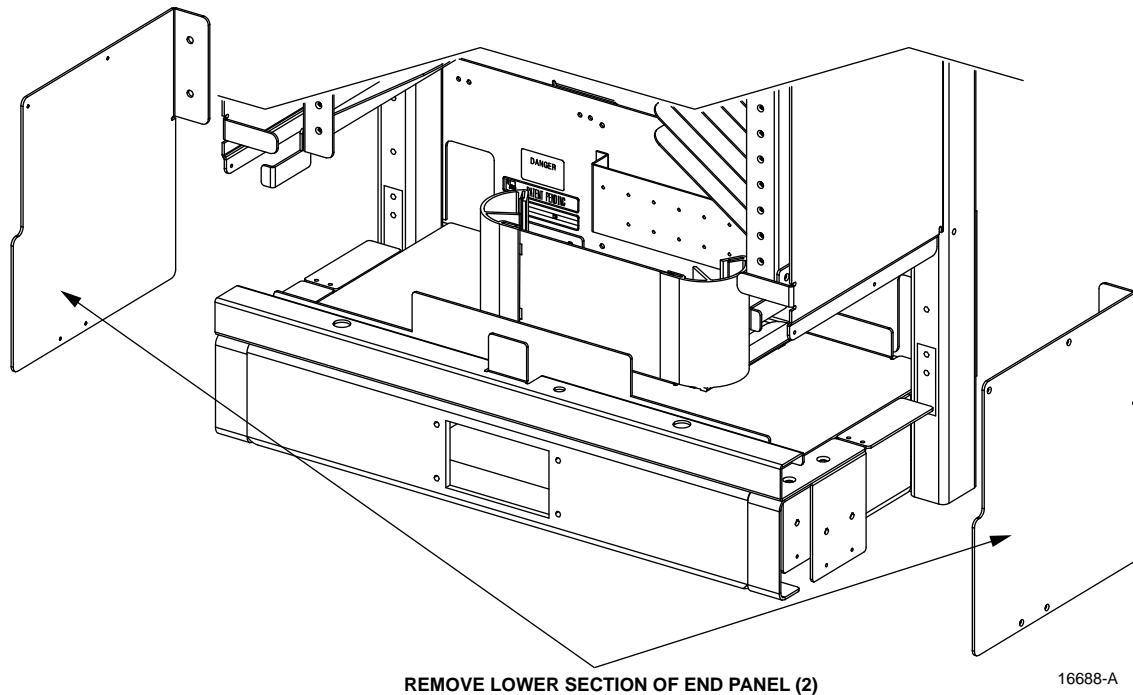

Figure 56. Remove Side Panels From Bay
1. Remove lower-most side panels from bay to allow for cable routing (save panels for future use), as shown Figure 56.
2. Remove the IMP middle base cover and IMP end base cover from guard box to access the two mounting holes as shown in Figure 56.